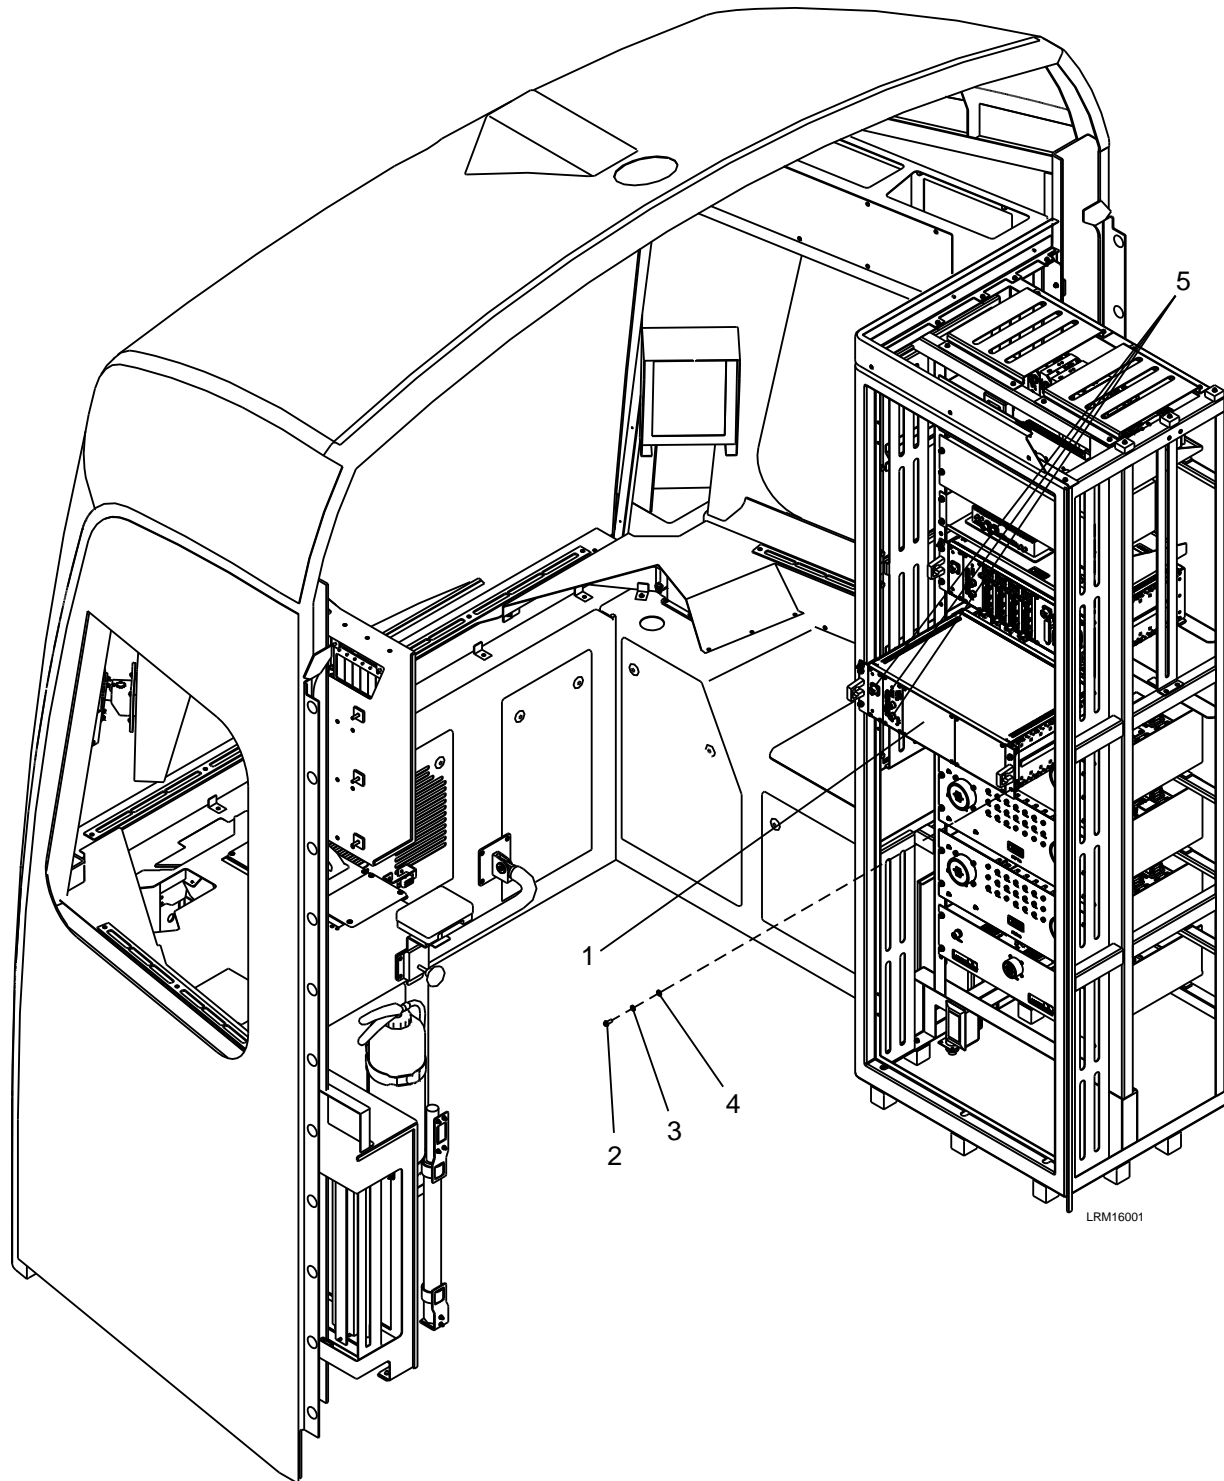

Figure 7-1: Event Recorder Rack
2. Turn off the Event Recorder Circuit Breaker in the Low Voltage Circuit Breaker found in the A-Unit Cab. Disconnect the electrical connectors (5) to the Event Recorder (1). See Figure 7-1.
3. Remove the four M6 x 16 screws (2), M6 lock washers (3), and M6 plain washers (4).
4. Carefully remove the Event Recorder (1).
1. Open the right-side electric locker door located in the A-Unit. See Figure 7-1.
2. Carefully install the Event Recorder (1) aligning the mounting holes.
3. Install the four M6 x 16 screws (2), M6 lock washers (3), and M6 plain washers (4).
5. Connect the electrical connectors (5) to the Event Recorder (1) and grounding strap.